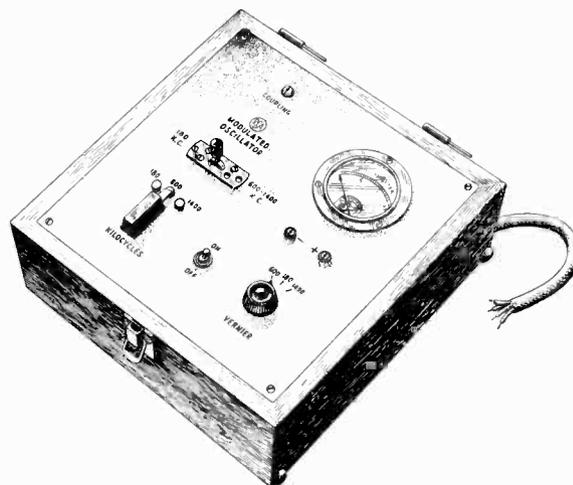

Figure 11—Test Oscillator (Driver)
1. A Test Oscillator (Driver). See Figure 11.
for doing this is indicated in Part II, Section 12. The Driver illustrated in Figure 11 may be used for this adjustment. The procedure for adjusting the trimming condensers follows: